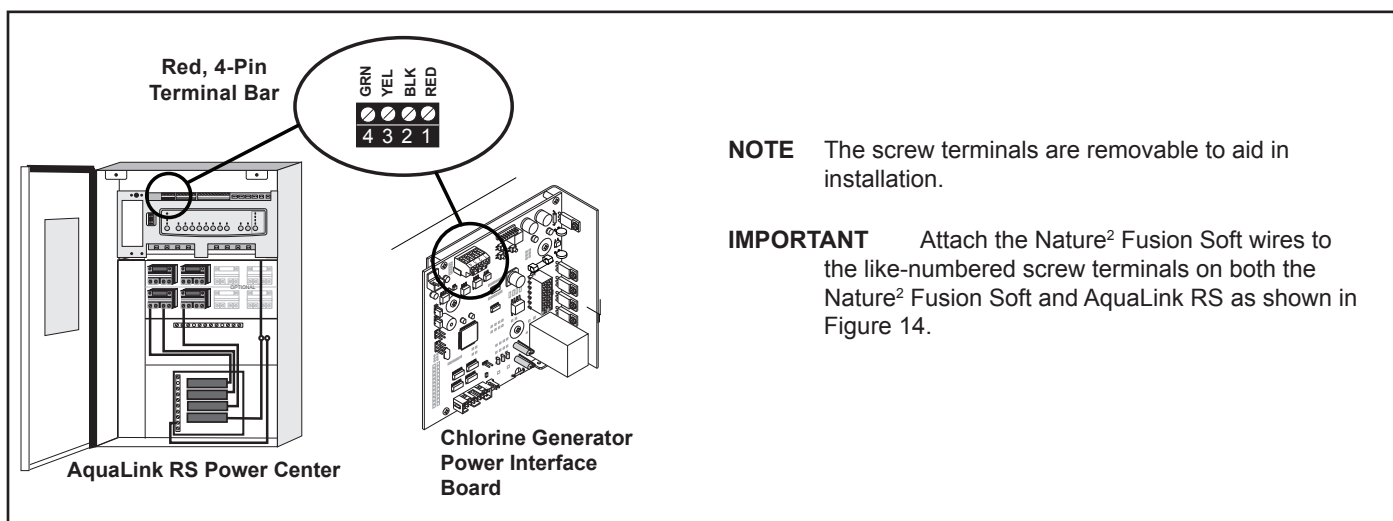

Figure 15. Wiring Nature² Fusion Soft Control Center to an AquaLink RS Control System
The Jandy AquaLink RS and Nature² Fusion Soft use a four (4) wire connection to communicate and can be wired up to 500 feet (150 m) apart. Any outdoor rated four (4) conductor cable, minimum 22 AWG, can be used. Locate the appropriate screw terminals on the circuit board according to Figure 15. Wire the Nature² Fusion Soft from the red 4-pin terminal bar to the AquaLink RS red 4-pin terminal bar.